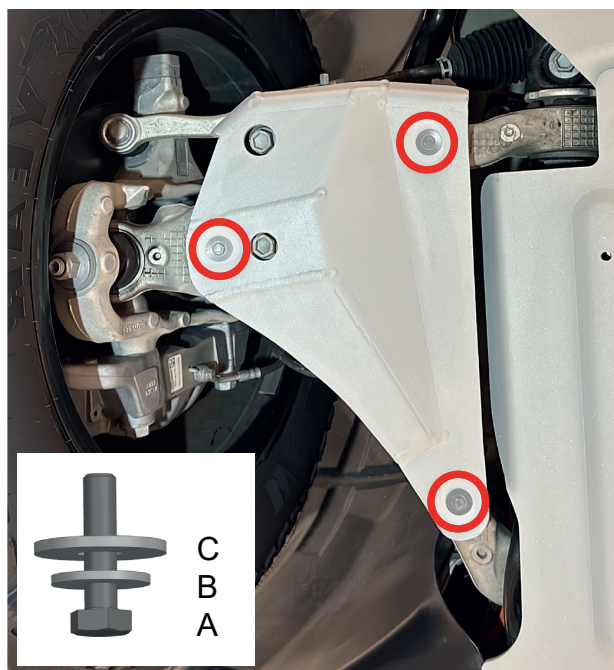

Fig. 1
1. Install the right front control arm skid plate (item 2) using M6x25 bolts with M6 & M8 washers (item A,B,C) as shown in fig.1.